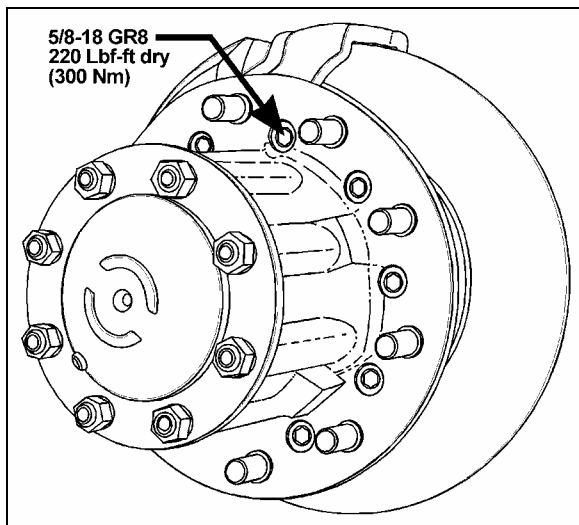

FIGURE 7: TORQUE SPECIFICATION
- FIGURE 7: TORQUE SPECIFICATION 5
3. Install wheel mount sensors on front and drive axles (fig. 7). Adjust front axle according to appropriate specifications chart below.
See reference numbers on wheel mount sensors (fig. 7).
- With the system installed as for front axle alignment (fig.7), adjust drive axle according to specifications' chart below.